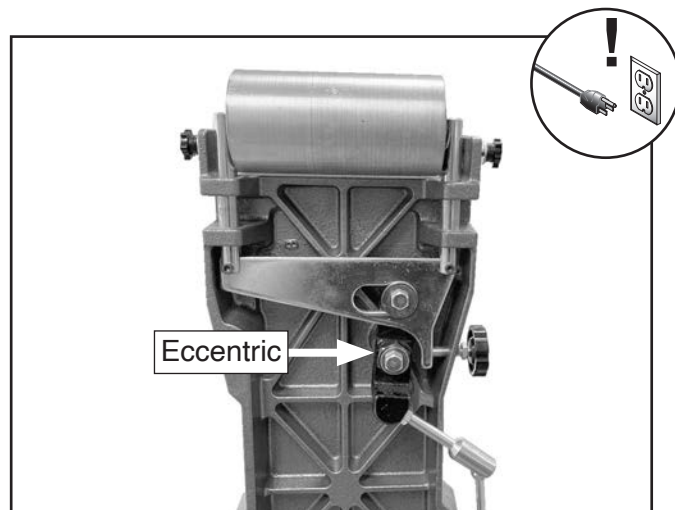

Figure 75. Location of belt tension eccentric (belt removed for clarity).
3. Turn the eccentric shown in **Figure 75** to tighten or loosen the belt.